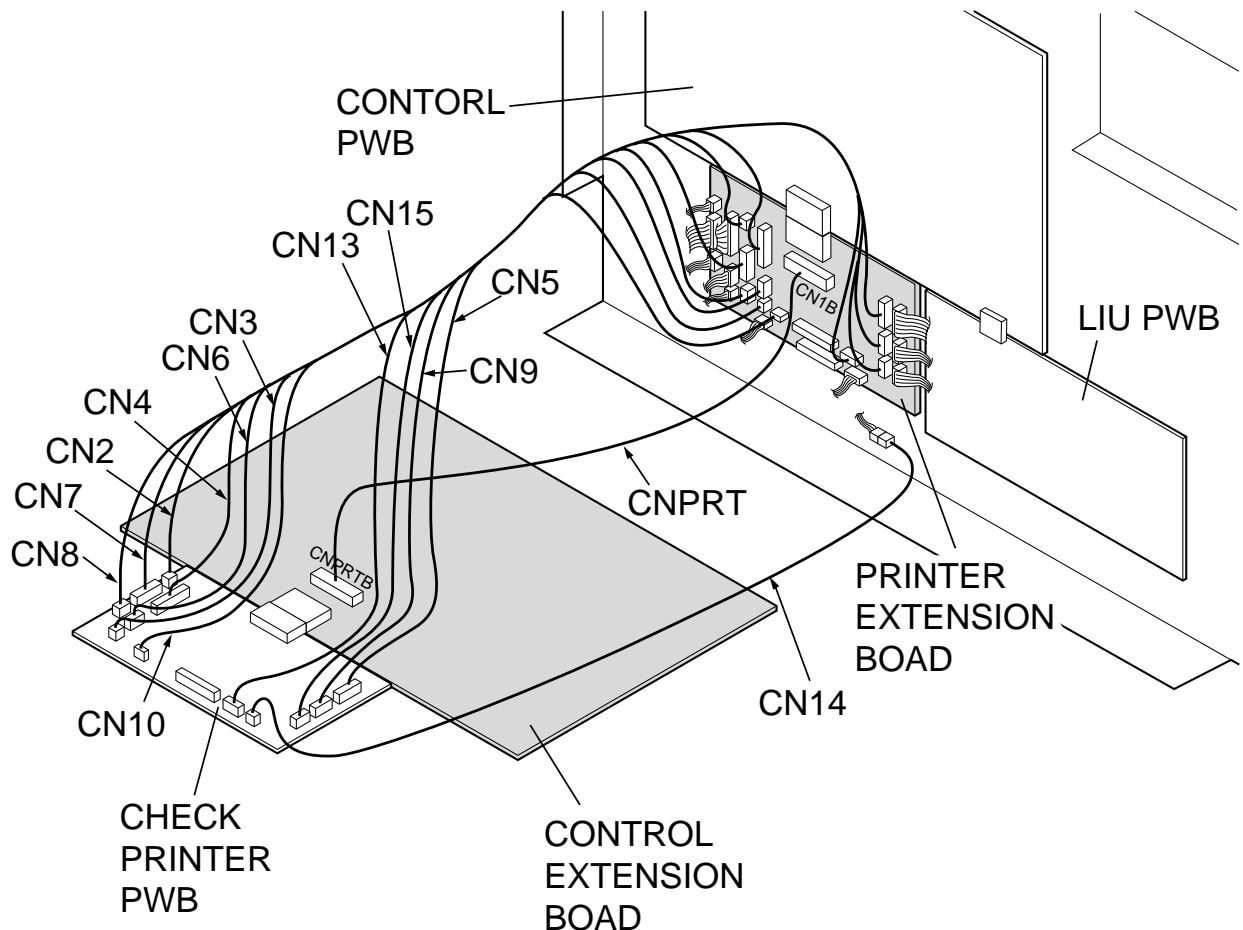

Fig. 2
- 3) Connect the extension cables to the connectors (B side) of extension board (Printer-EX) as shown in Fig 2.
- 1) Connect all cables to the connectors of extension boards and check PWB as shown in Fig.2 on page 8-3.